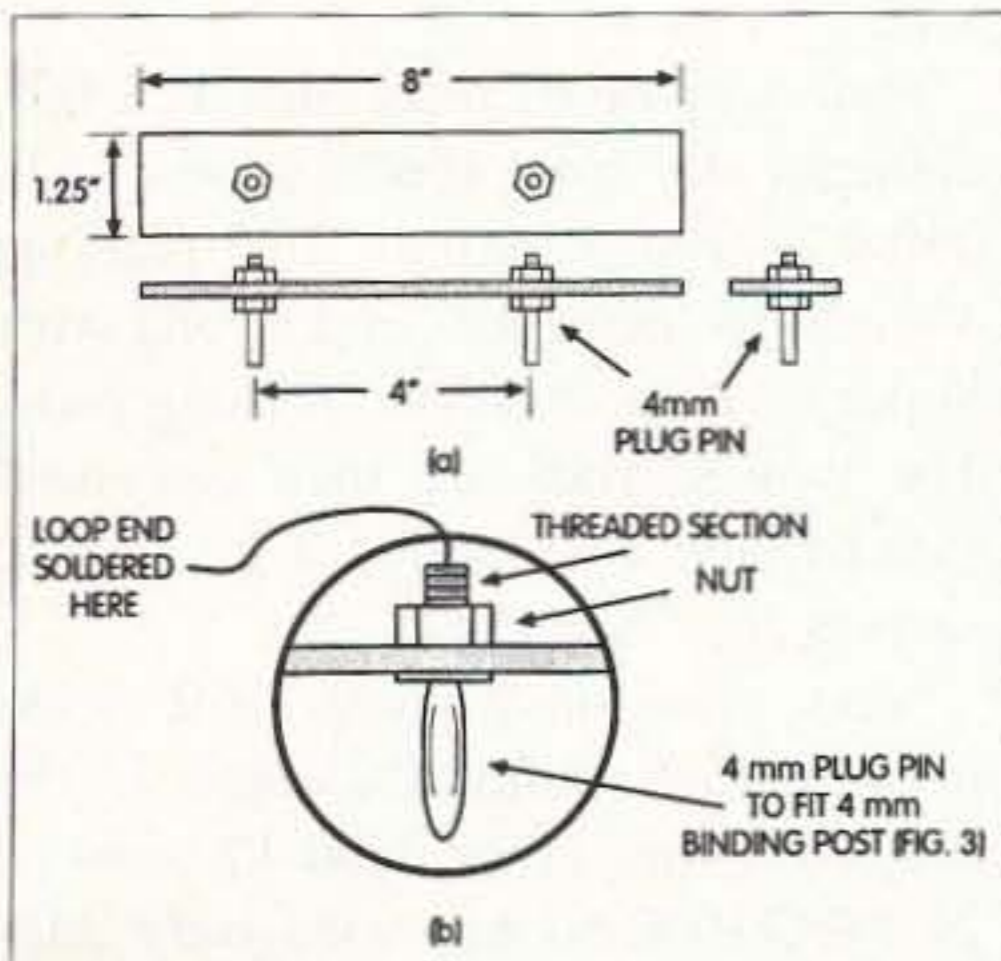
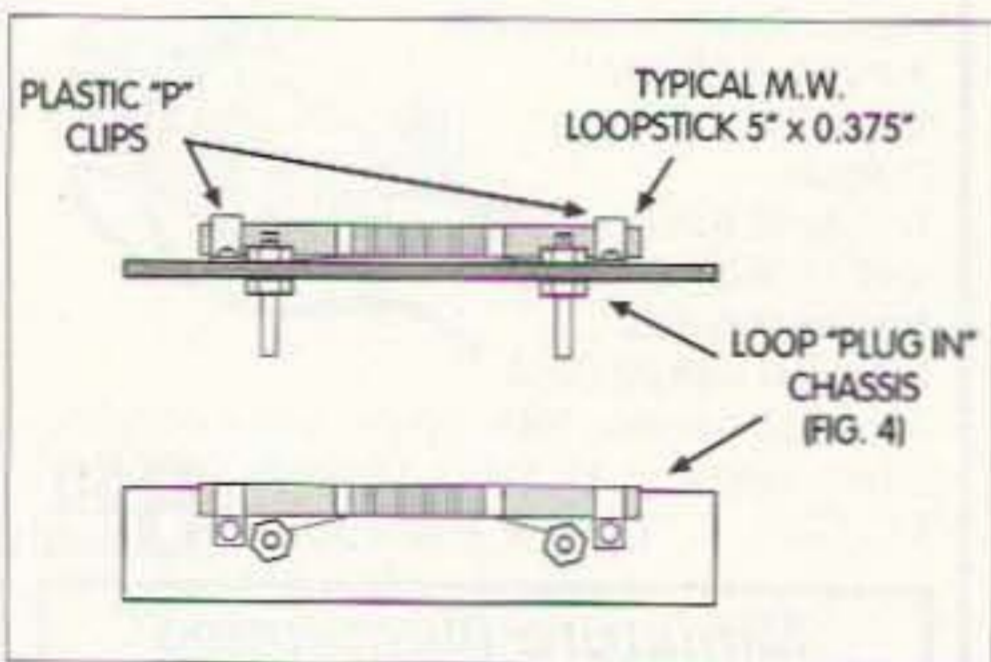
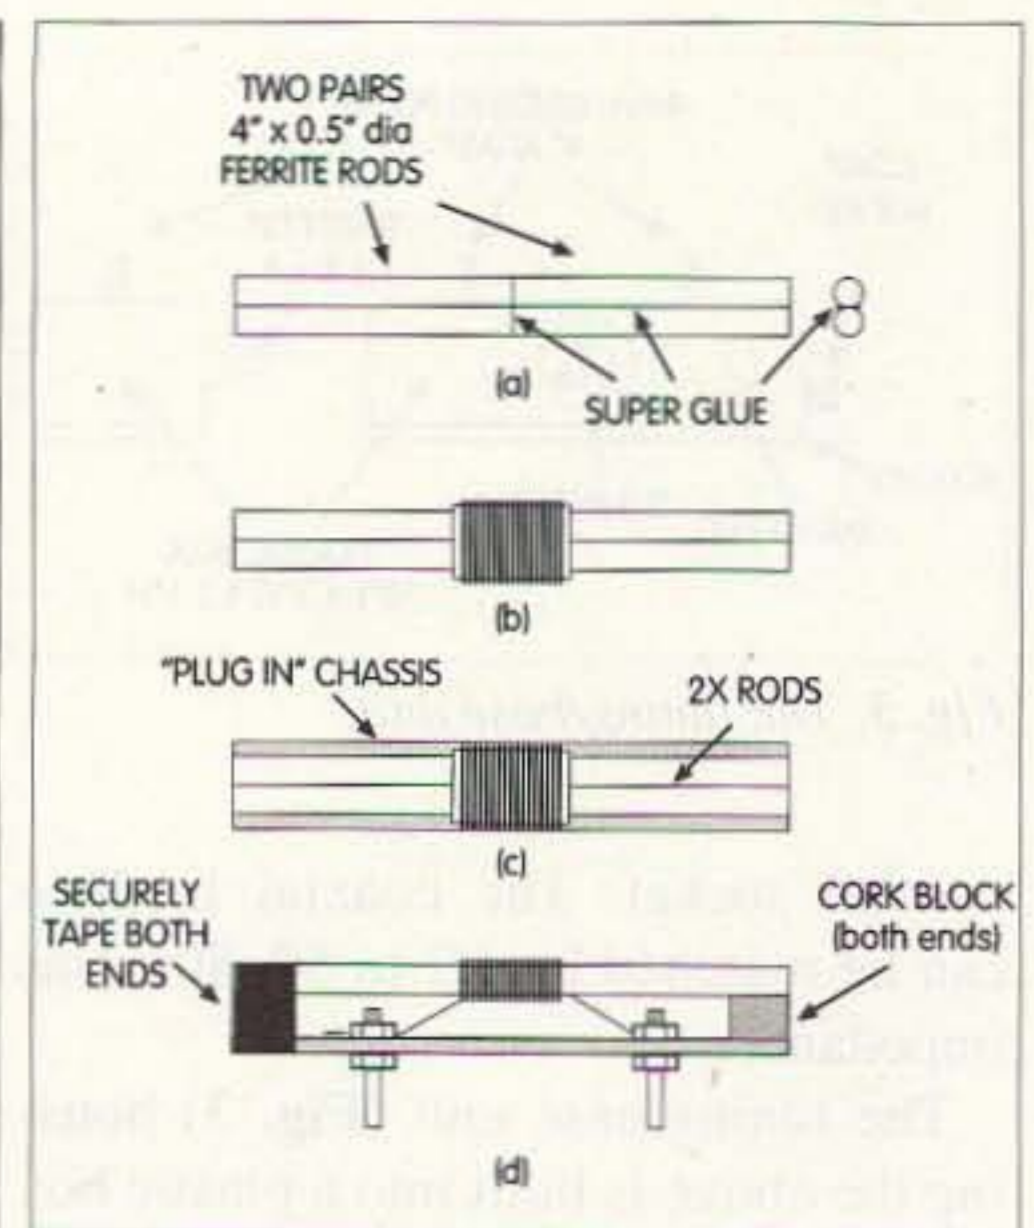

Fig. 4(a) Loop "plug-in" chassis. (b) Plug pin detail.
Fig. 6. MF (MW) loop — 550–2100 kHz.
Fig. 8. The 1750–7700 kHz loop.
Various alternative loop configurations are used (Figs. 6–10), all using a standard plug-in chassis as shown in Fig. 4. The chassis consists of a strip of rigid insulated board (up to 1/8" thick) 8" x 1-1/4" wide (Fig. 4). Two 4
The 4 mm pins are quite standard, with a screw thread on one end to fasten to the chassis board (Fig. 4) with nuts and washers. These pins are available from various suppliers. On the prototype, Maplin type MF72/54403/WB43 pins were used. In the USA, Antiques Electronic Supply was advertising these in their catalog. The various loop configurations (Figs. 6–10) are mounted on these loop "plug-in" chassis.
Individual "plug-in" loop construction: the MF (MW) loop — 550–2100 kHz (see Fig. 6)
The loopstick is mounted on a loop "plug-in" chassis (Fig. 4). Construction is simple. The two ends of the ferrite rod are secured with plastic "P" clips, and the ends of the winding are soldered to the 4 mm plug pins.
This coil assembly was fastened to a loop "plug-in" chassis (Fig. 4) with PVC "P" clips.
The 1750–7700 kHz loop (Fig. 8)
Four Amidon 61 rods, each 4" x 1/2" diameter are used (code number 61-050-400 from Amidon). Two pairs of 4" rods are cemented end to end with Super Glue to form two 8"-long rods. The two 8" rods are then cemented side-by-side to produce a 1" x 1/2" section core. See Fig. 8.
The above coil assembly is mounted on yet another loop plug-in chassis (Fig. 4) as shown in Fig. 8. The rod/coil assembly is uplifted from the loop chassis using cork blocks cut from wine bottle corks. Then securely tape into position as shown. The 3" tails of the winding are cut back, then securely soldered to the ends of the 4 mm plug pins.
Holes are drilled in from the tips of the crosspieces, as shown. The cross is then securely mounted to yet another standard loop plug-in chassis (Fig. 4). Use small nylon angle brackets.
This is the simplest loop to construct. All that is needed are four lengths of brass tubing, each 12" long x 1/8" outside diameter, plus one 12" length of brass rod with an o/d such that it will just slip into the tubing. Also required is yet another standard loop plug-in chassis (Fig. 4). The brass tubing and rod were found in a store specializing in scale-model-making materials.